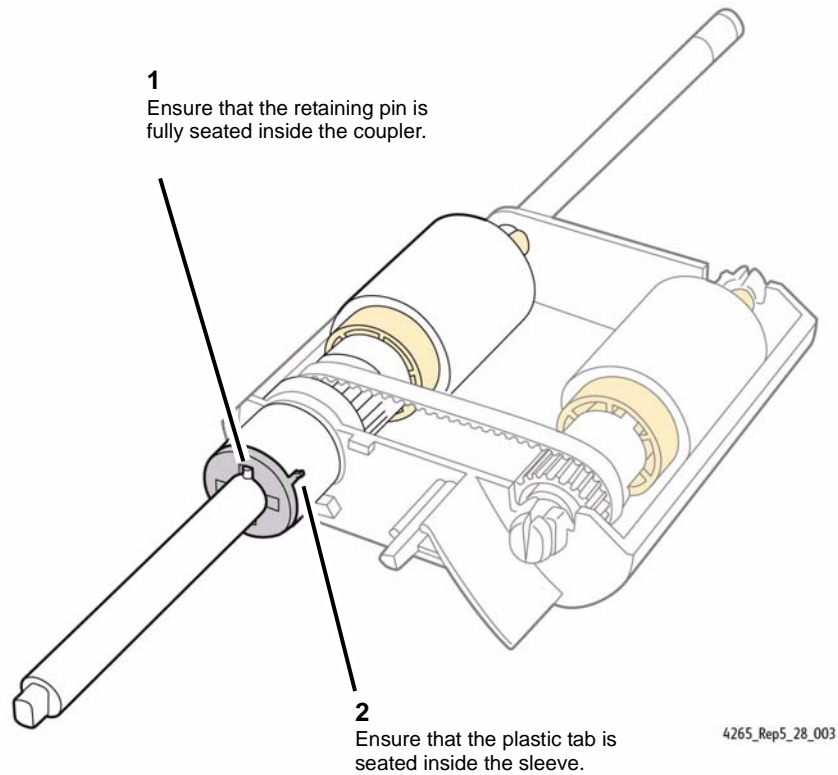

Figure 3 Checking the DADF Pickup Assembly
1. Check the following (Figure 3).